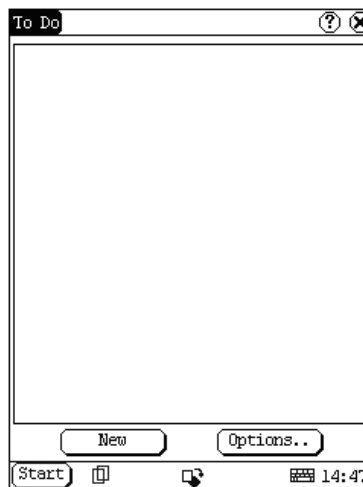

Fig 4-19
- 3) Click [Options] button to open the To Do Display interface. (See Fig 4-19)